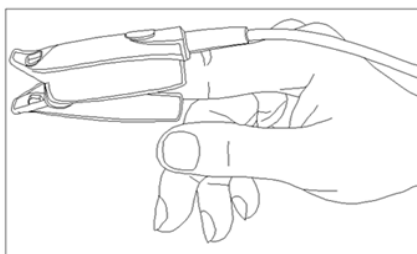

Figure 1 Finger Clip Probe
2. For Adult Finger Clip SpO2 Probe, insert one finger (index finger is preferred, but middle or ring finger with proper nail length is possible as well) into the probe according to the mark on the probe clip, as shown in Figure 1.